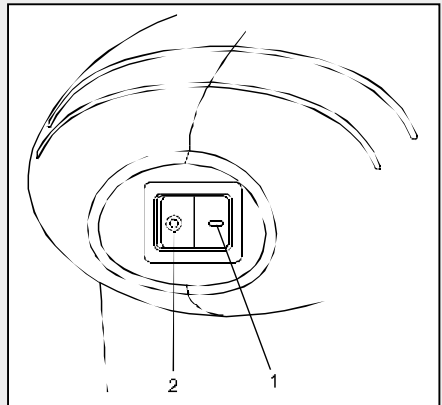

Fig. 5
To turn the sander ON, push the right hand side of the switch (1) until the sander starts. To turn the sander OFF, press the left hand side of the switch (2) (Fig. 5).